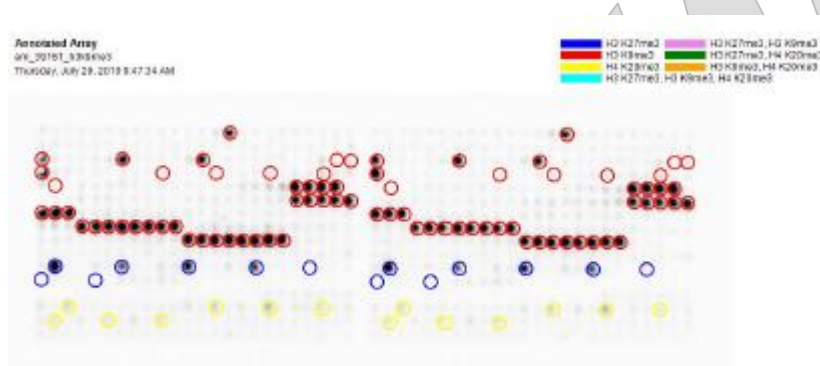

Figure 9. Example of an Annotated Array Overlay
6.16. The **Annotated Array** tab allows the user to select up to three modifications to be displayed in superposition to the experimental data. The modification selections can be in order to see the array grid overlay or to identify the modifications on both sides of the array. Use the colour coding to identify the modifications. The annotated array also helps align the grid to the experimental data. The user can use this tab as a guiding tool for grid alignment. See **Figure 9** below for an example.